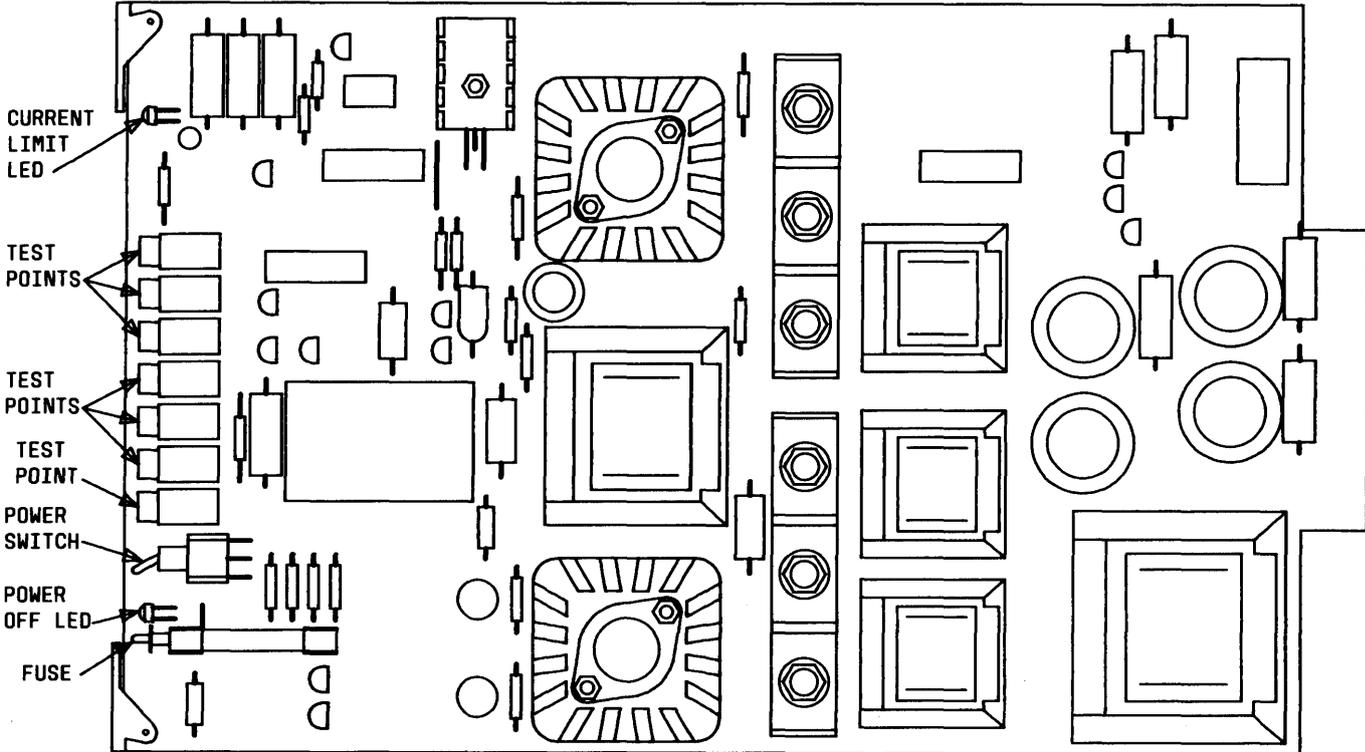

Fig. 2—UD1 Power Supply Circuit Pack
2.03 *UD1—Power Supply Circuit Pack:* This circuit pack converts the -48 Vdc talk battery into the voltages needed to operate the 13A. Test points to measure the voltage levels are located on the front of the UD1 (Fig. 2). Other controls and indicators located on the front of the UD1 are listed and described in Table A.
- (1) Operate POWER switch to ON (Fig. 2). POWER OFF LED goes off.
- (2) Measure the voltages at the test points in Table D.